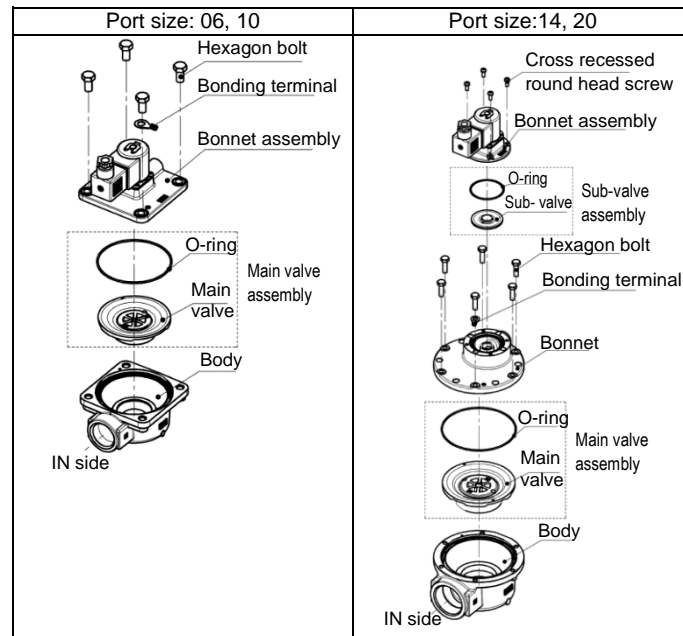

Fig.7
- Loosen the hexagon bolts (and/or cross recessed round head screws) and remove the bonnet, O-ring, and main valve (and/or sub-valve). See Fig.7.
- Assemble the bonnet onto the body (refer to Fig.7).